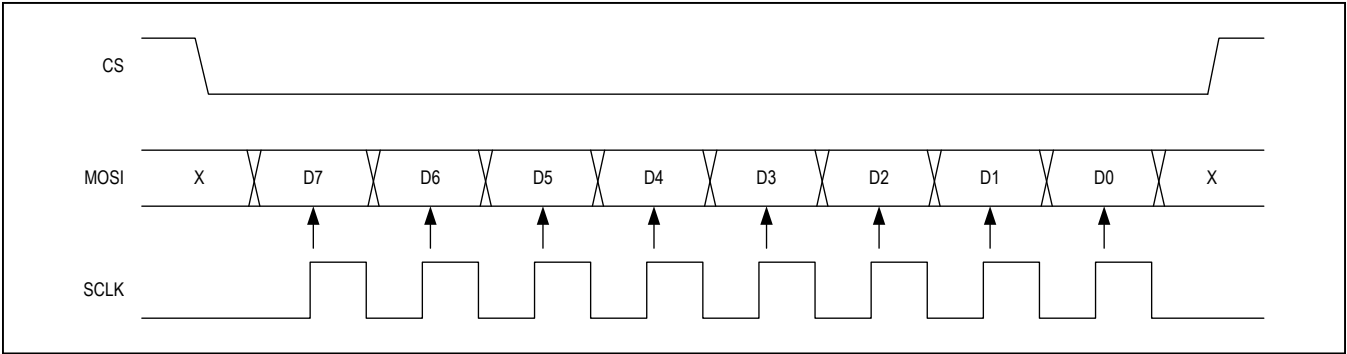
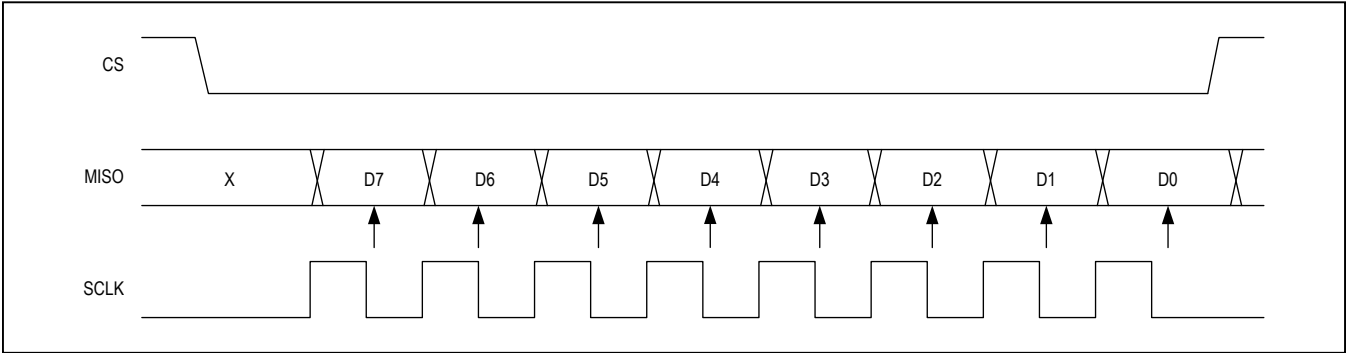

Figure 6. Example of SPI Transaction—Data Sent From Host to MAX7037
Figure 7. Example of SPI Transaction—Data Sent From MAX7037 to Host
The SPI Chip Select (CS) is active-low. The SPI is configured as half-duplex, so only MISO or MOSI will be used in any given transaction; not both at the same time. Data is shifted out most significant bit first. The clock polarity is active-low, meaning that the SPI clock is low when idle. For the MAX7037, the clock phase is such that the first bit is sampled on the rising edge of the clock after the CS pin has been asserted, and if bits are read out by the host, MISO transitions on the rising edge of SCLK. For the host, MOSI transitions on the falling edge of SCLK and MISO is sampled on the falling edge of SCLK. The timing relationship between the SPI signals can be seen in Figure 6 which shows an example of a single byte being written to the MAX7037 by the host. Figure 7 shows an example of a byte being read from the MAX7037 by the host. The arrows indicate the sampling instants. The frequency of SCLK should not exceed 2MHz.